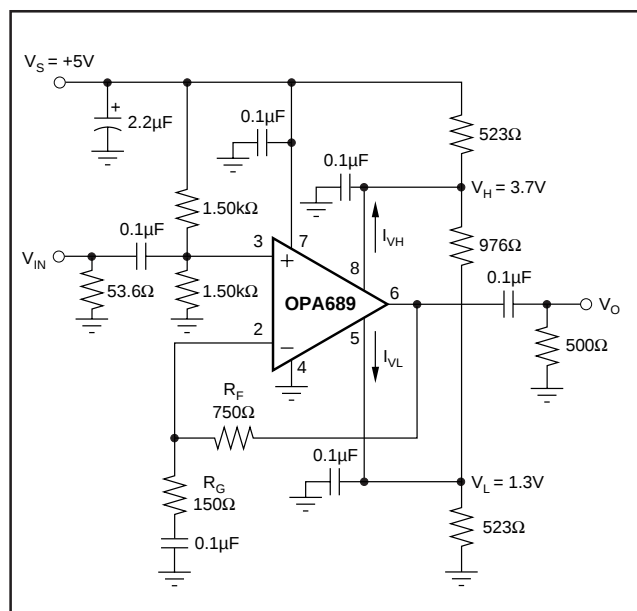

FIGURE 2. AC-Coupled, Single Supply Amplifier.
$G = +6$ ,  $R_F = 750\Omega$ ,  $R_L = 500\Omega$  tied to  $V_{CM} = 2.5V$ ,  $V_L = V_{CM} - 1.2V$ ,  $V_H = V_{CM} + 1.2V$ , (Figure 2 for AC performance only), unless otherwise noted.
NOTES: (1) Junction Temperature = Ambient Temperature for low temperature limit and 25°C guaranteed specifications. Junction Temperature = Ambient Temperature + 23°C at high temperature limit guaranteed specifications. (2) TEST LEVELS: (A) 100% tested at 25°C. Over temperature limits by characterization and simulation. (B) Limits set by characterization and simulation. (C) Typical value for information only. (3) Current is considered positive out of node. (4) CMIR tested as < 3dB degradation from minimum CMRR at specified limits. (5)  $I_{VH}$  ( $V_H$  bias current) is negative, and  $I_{VL}$  ( $V_L$  bias current) is positive, under these conditions. See Note 3 and Figures 2 and 7. (6) Limiter feedthrough is the ratio of the output magnitude to the sinewave added to  $V_H$  (or  $V_L$ ) when  $V_{IN} = 0$ . (7)  $V_H$  slew rate conditions are:  $V_{IN} = V_{CM} + 0.4V$ ,  $G = +6$ ,  $V_L = V_{CM} - 1.2V$ ,  $V_H =$  step between  $V_{CM} + 1.2V$  and  $V_{CM}$ .  $V_L$  slew rate conditions are similar. (8) Linearity Guardband is defined for an output sinusoid ( $f = 5MHz$ ,  $V_O = V_{CM} \pm 1V_{p-p}$ ) centered between the limiter levels ( $V_H$  and  $V_L$ ). It is the difference between the limiter level and the peak output voltage where SFDR decreases by 3dB (see Figure 8).
$G = +6$ ,  $R_F = 402\Omega$ ,  $R_L = 500\Omega$  tied to  $V_{CM} = 2.5V$ ,  $V_L = V_{CM} - 1.2V$ ,  $V_H = V_{CM} + 1.2V$ , (Figure 2 for AC performance only), unless otherwise noted.
Figure 2 shows an AC coupled, non-inverting gain amplifier for single supply operation. This circuit was used for AC
The OPA689 is nominally specified for operation using either  $\pm 5\text{V}$  supplies or a single  $+5\text{V}$  supply. The maximum specified total supply voltage of  $13\text{V}$  allows reasonable tolerances on the supplies. Higher supply voltages can break down internal junctions, possibly leading to catastrophic failure. Single supply operation is possible as long as common mode voltage constraints are observed. The common mode input and output voltage specifications can be interpreted as a required headroom to the supply voltage. Observing this input and output headroom requirement will allow design of non-standard or single supply operation circuits. Figure 2 shows one approach to single-supply operation.
When the limiter voltages need to be within 2.1V of the supplies ( $V_L \leq -V_S + 2.1V$  or  $V_H \geq +V_S - 2.1V$ ), use low impedance voltage sources to set  $V_H$  and  $V_L$  to minimize errors due to bias current uncertainty. This will typically be the case for single supply operation ( $V_S = +5V$ ). Figure 2 runs 2.5mA through the resistive divider that sets  $V_H$  and  $V_L$ . This keeps errors due to  $I_{VH}$  and  $I_{VL} < \pm 1\%$  of the target limit voltages.